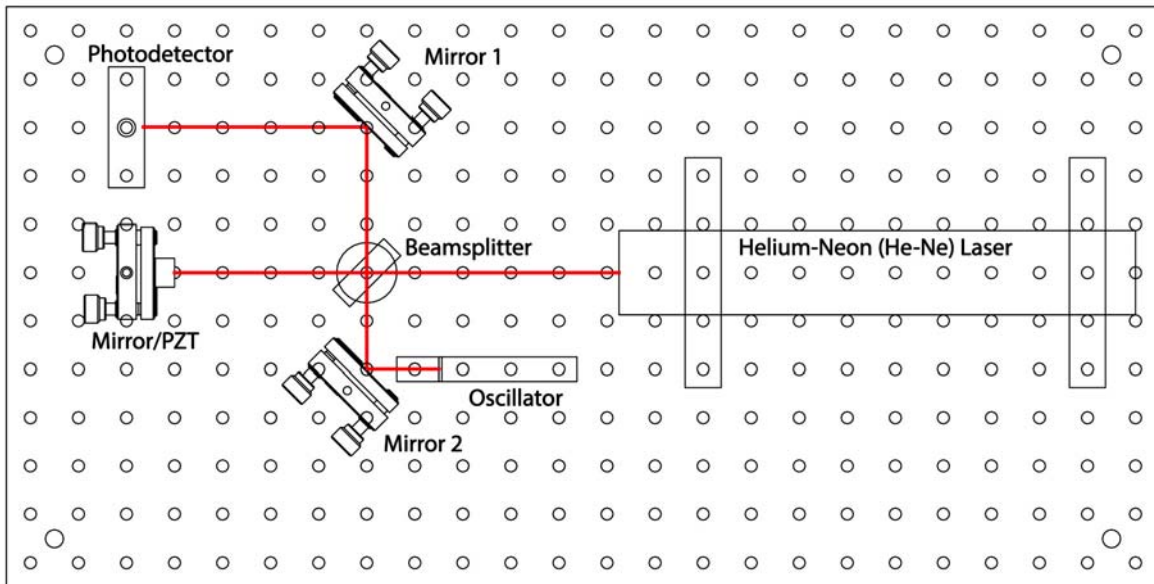

Figure 9. The interferometer set-up for the second week. Here Mirror 2 is a folding mirror, while the small mirror on the oscillator retroreflects the beam.
If you take a closer look at the oscillator (see Figure 9), you will see what is basically an aluminum post with a
- Begin in the lab by setting up the interferometer as shown in Figure 9. The set-up and alignment procedure is the same as you did last week, so we do not repeat it here. You will probably find that the fringe contrast is lower than you obtained last week. This is because some light is lost with the extra reflection, and because the two arms of the interferometer are not as close to being the same length as you had before. Measure the fringe contrast S as you did before, and write it in your notebook.